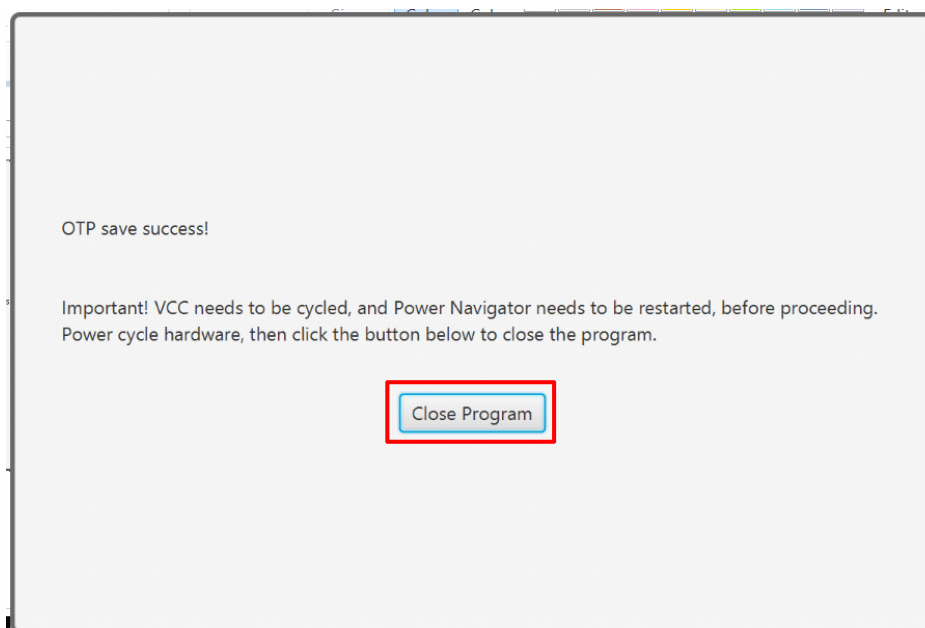

Figure 9. Window Showing OTP Save Success
14. When saving to the OTP is successful, another window pops up (see Figure 9). Click **Close Program** to close the Power Navigator. Power cycle the board.